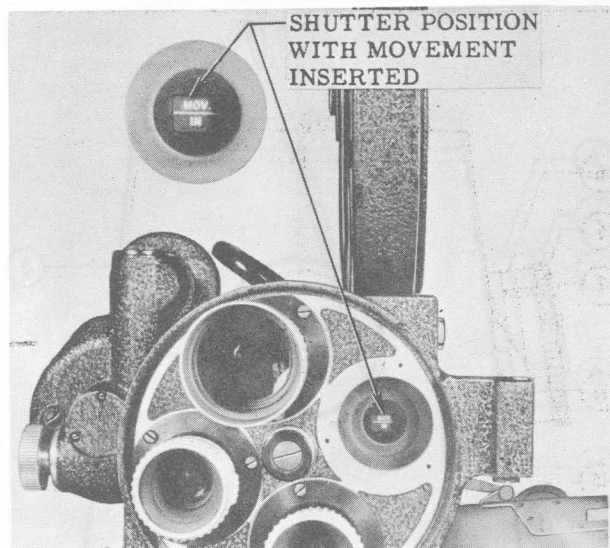

Figure 5-4. Shutter Position for Timing
e. Due to spiral on gears, shutter will rotate as movement is inserted. When movement is all the way in, with pull-down claw still in line with scribed mark, "MOV IN" will show in aperture (figure 5-4), and movement will be correctly timed with shutter.